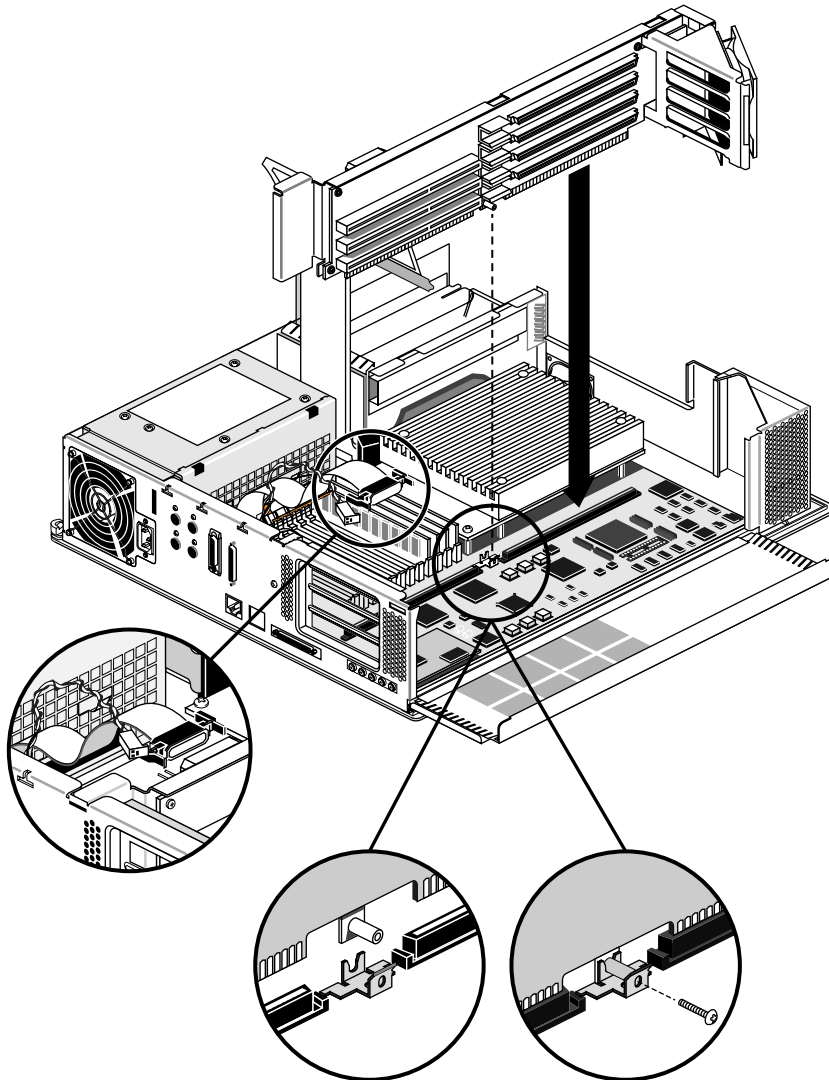

Figure 2-14 Installing the New Backplane
8. Install the new backplane by lowering it into position and pressing firmly to seat the backplane connectors in the slots on the system motherboard. See Figure 2-14.